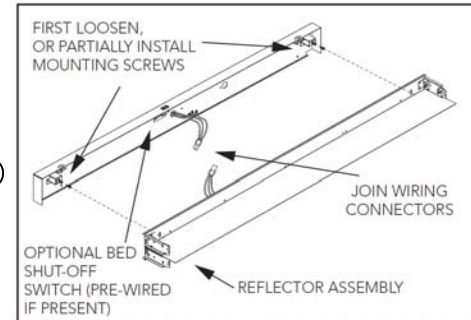

Figure 6
2. Locate the Reflector Assembly's keyholes slots. Position the keyhole slots onto the screws in the mounting brackets on the Backplate. (See Figure 6.)
1. Raise the Reflector Assembly up to the Backplate and snap the Female Supply Connector into the Male Connector attached to the Reflector Assembly. (See Figure 6)